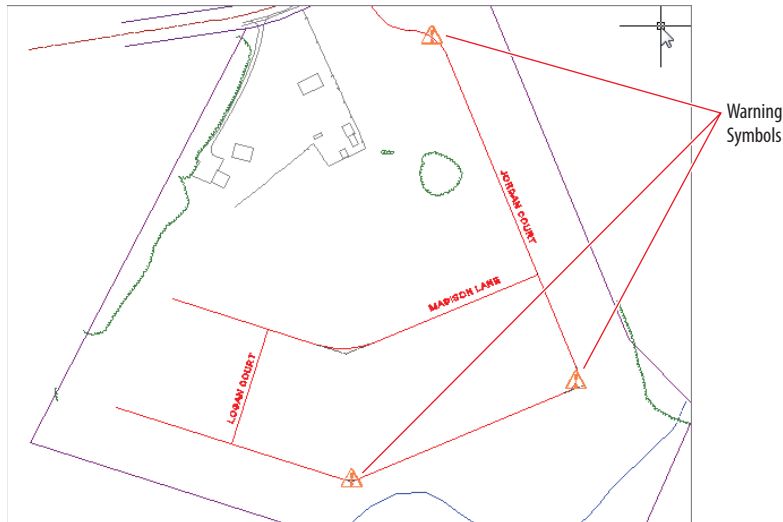

FIGURE 5.16 Warning symbols indicating design check set violations within the alignment
4. For **Design Seed**, type **25 (40)**, and press **Enter**.
8. Click OK to close the Alignment Properties dialog box. Press Esc to clear the grips on the alignment. You should see three yellow warning symbols in the drawing, as shown in Figure 5.16.